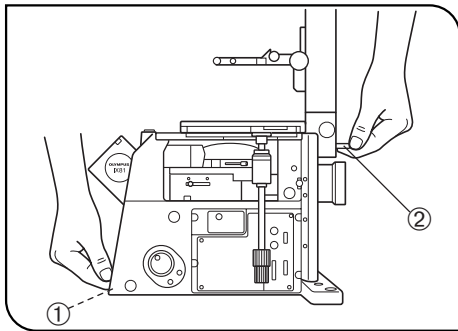

Fig. 2
6. When moving the microscope, remove the modules that may drop including the specimen from the microscope in advance, then carefully carry the microscope frame by the base (front edge) ① and the grasping part on the illumination column ② as shown in Fig. 2 (Weight: approx. 25 kg).